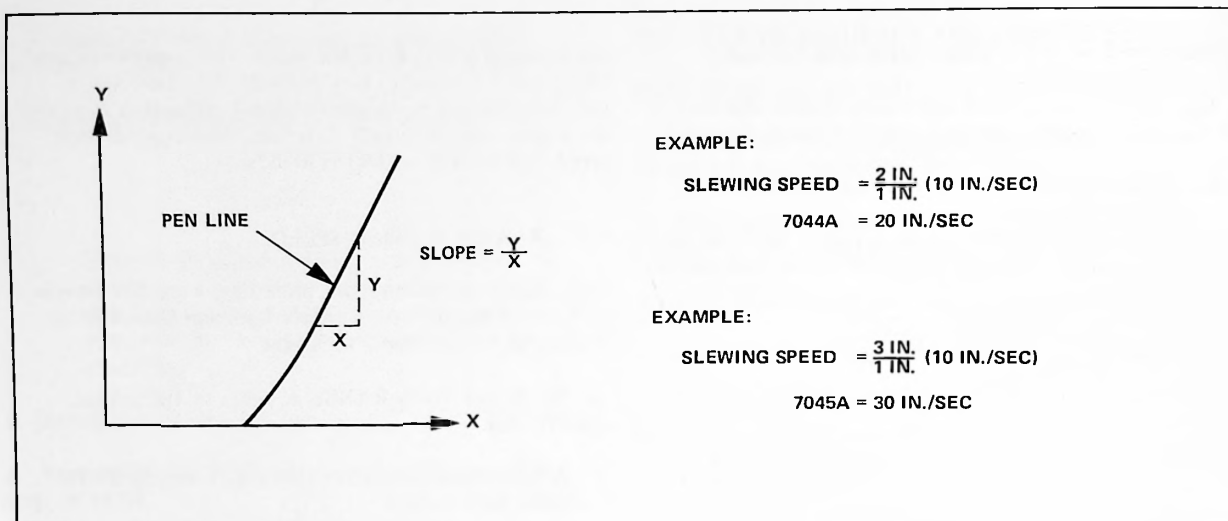

Figure 5-13. Y-Axis Slewing Speed – 7044A and 7045A Models
- f. At center of X-axis travel, close S1 switch. After pen has slewed to full scale position SERVO toggle switch to STANDBY. Plot in Figure 5-13 indicates pen moves greater than 2 inches in Y direction for 1 inch